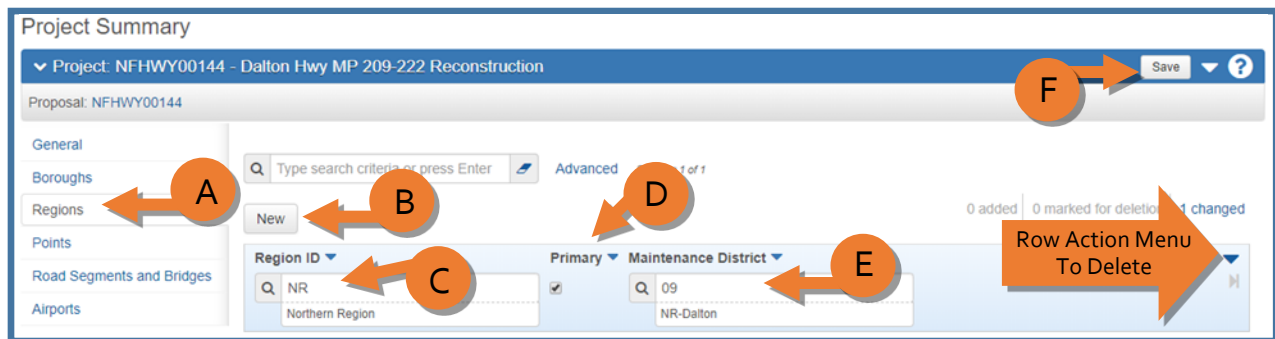

Figure 3.14
1. From the Project Summary component (*Figure 3.14*):
2. (A) Select the **Regions** tab.
3. (B) Click the **<New>** button.
4. (C) In the **Region ID** field, search for and select the appropriate region.
5. (D) Check the **Primary** checkbox if this is the primary region or only region for this project.
6. (E) If applicable, in the **Maintenance District** field, search for and select the maintenance district or primary maintenance district in which the project lies. Leave the field blank for other types of projects for which M&O will not take over maintenance once construction is complete.
7. (F) Click **<Save>**.
To modify a region record imported from MRS (or created earlier) it is not necessary to delete the existing region record and create a new one. Simply modify the existing record (see *Figure 3.14*):
1. On the Project Summary Regions tab, locate the region record you want to delete (see *Figure 3.14*).